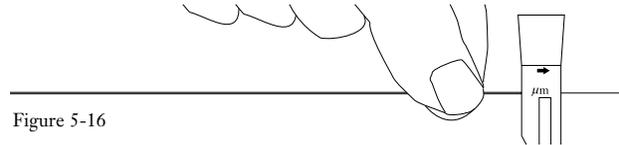

Figure 5-16
5.4-3 Remove this 40-mm section of the buffer with the 203  $\mu\text{m}$  No-Nik, tool (Figure 5-16).